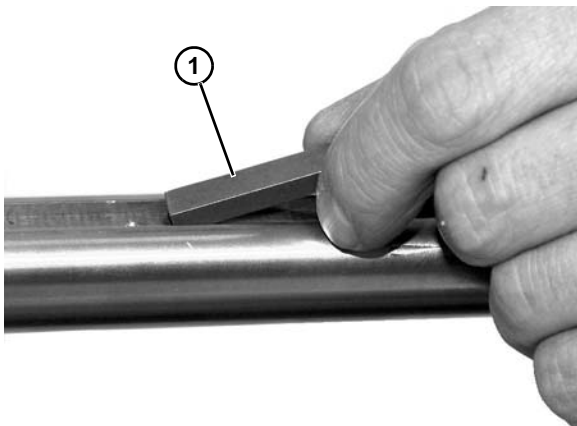

Figure 37
3. Remove output shaft key (Figure 37, item 1).